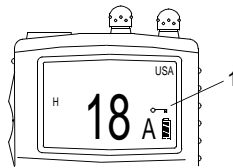

Figure 9. Key Lock Symbol
- c. Make sure that the key lock symbol (figure 9, item 1) appears on the display, showing that the channel is locked.